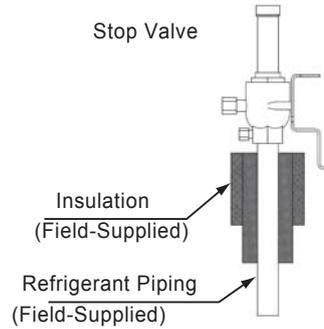

Fig. 7.2 Insulation on Pipes
- Insulate the refrigerant pipes as shown in Fig.7.2. After connecting the refrigerant piping, seal the refrigerant pipes by using the field-supplied insulation material. Insulate the unions and flare nuts at the piping connections completely. Insulate the liquid piping and gas piping completely to avoid decreasing of performance and dewing on the surface of the pipe.